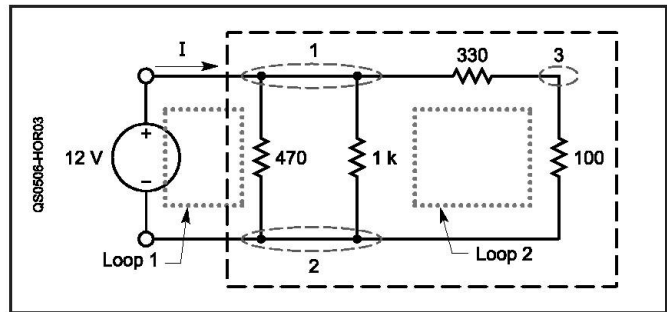

Figure 3—Build this circuit to test your understanding of KCL and KVL.
- Using the circuit of Figure 3, combine the values of the series and parallel resistors until you have one single equivalent resistance,  $R_{EQ}$  replacing everything inside the dashed line.
Figure 3 shows that in doing so, Faraday converted the electrical energy of current in the first circuit into magnetic energy in the surrounding field and back into electrical energy in the second circuit. This led Faraday
**Figure 3** — Faraday demonstrated electromagnetic induction by showing how changing current in one coil induces a similar current in a second coil through a shared magnetic field. When the switch is closed, current in coil 1 will cause the current shown in coil 2. Lenz's law states that the current in coil 2 will be oriented to oppose the magnetic field from coil 1.
The minus sign in the equation means that the current caused by the changing magnetic field flows in the direction that creates an *opposing* magnetic field. This is otherwise known as Lenz's law and it describes the *back EMF* we observe in motors and the *kickback voltage* in a relay coil when the relay is deenergized. If you look closely at Figure 3, you can see that the induced current flows in the opposite direction to the current caused by the battery.
The minus sign in Faraday's law gives rise to Lenz's law: The *electromotive force* (EMF) induced by the changing magnetic field causes current to flow in the direction that creates a magnetic field *opposing* the original change in magnetic flux. Lenz's law describes the *back EMF* we observe in motors and the *kickback voltage* in a relay coil when it is deenergized. Last month's Figure 3 shows the relative direction of the currents in both circuits.